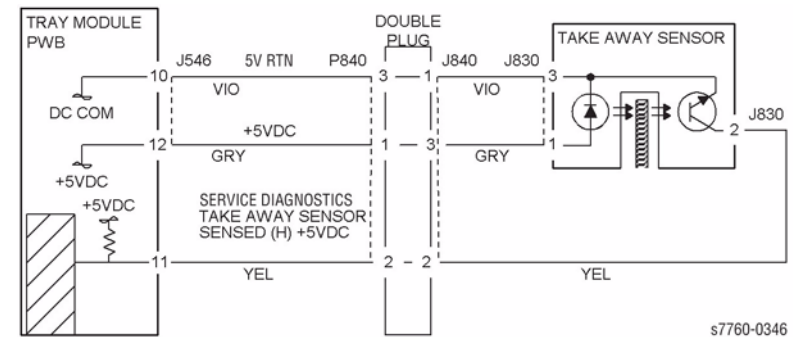
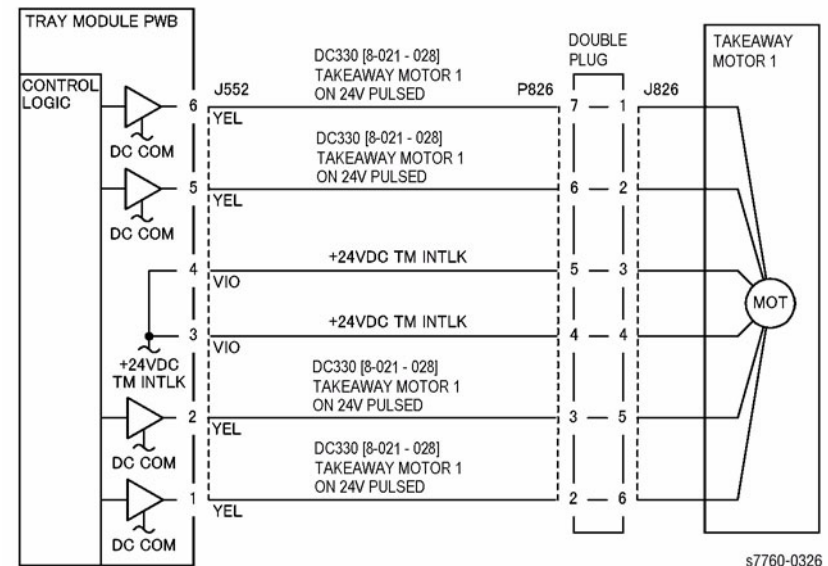

Figure 1 008-149 Takeaway Sensor
Figure 2 008-149 Takeaway Motor 1
Check the circuit of the Takeaway Motor 1 (Figure 2). Refer to Section 2, **OF 99-9 RAP** for troubleshooting procedure.
- Ensure that the connectors shown in the circuit diagrams (Figure 1, Figure 2) are securely connected and that the wires are not damaged.